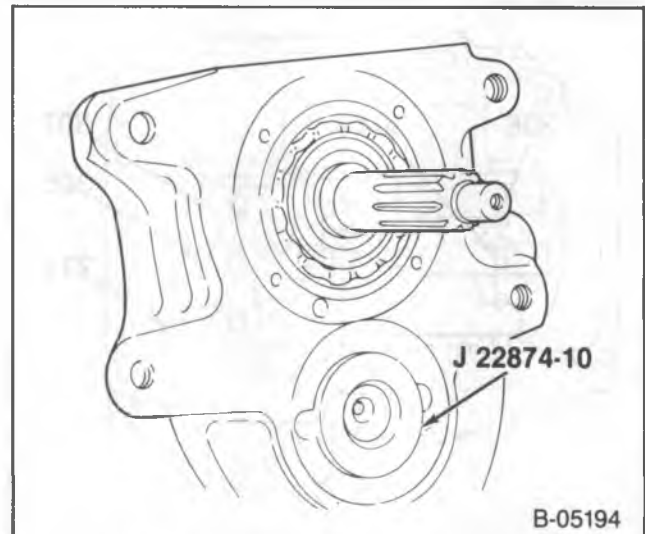
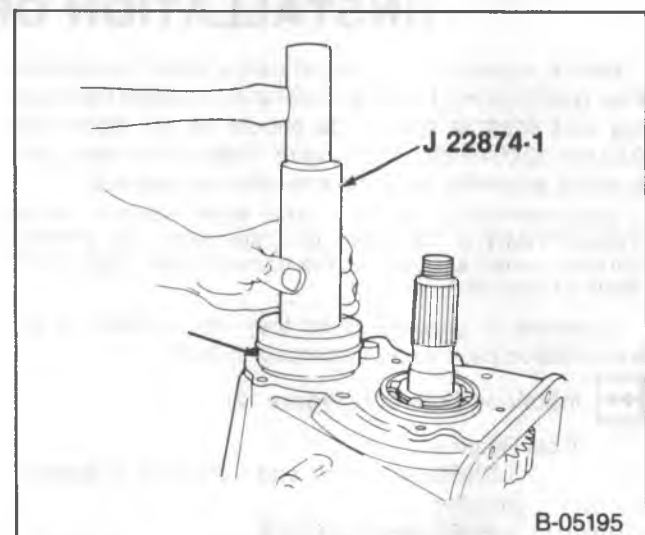

Figure 36—Tool J-22874-10 Installed
Figure 37—Installing the Countergear Rear Bearing
- Bearing retainer (202) and a new gasket.
- Countergear rear bearing (228).
- Support the front of the countergear using J-22874-10, (figure 36).
- New snap ring (225) onto the bearing.
- Drive the bearing onto the countershaft until the snap ring is flush with the case, using J-22874-1, (figure 37).
- New bearing retainer snap ring (226).
- Countergear front bearing (237).
- Cover (238) and a new gasket.
- Speedometer gear (219).
- Rear bearing retainer (223) and a new gasket.